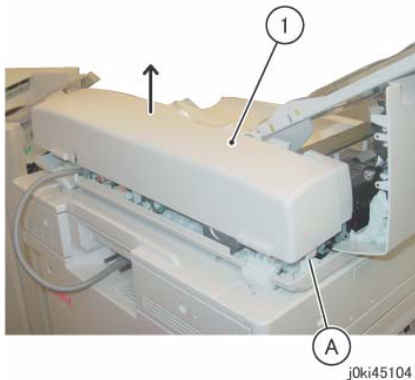

Figure 4 Removing DADF Rear Cover
7. Remove the DADF Rear Cover. (Figure 4)